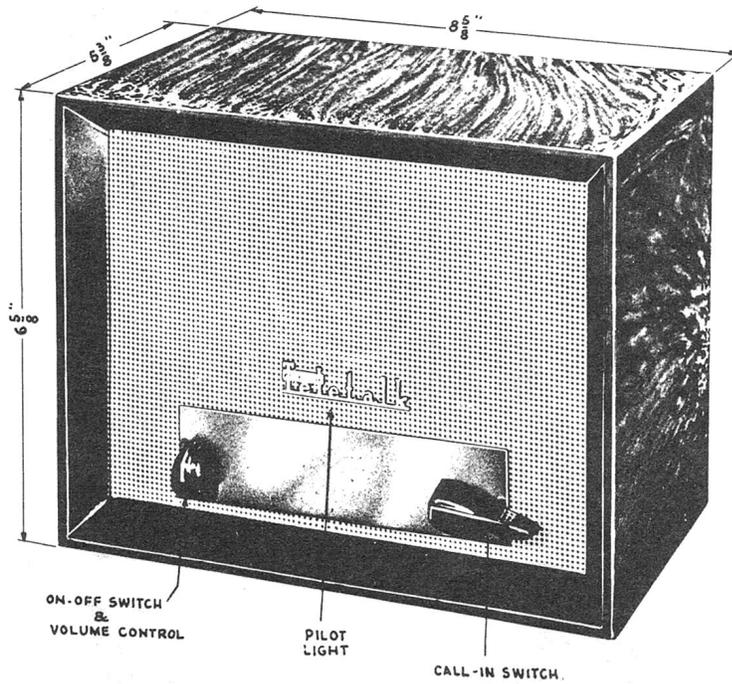

FIG. 11 - RM-B Remote Station
- Figure 11 - RM-B Remote Station